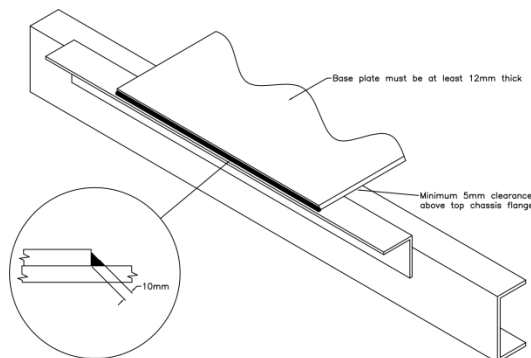

Figure 17: Fifth wheel mounting plate welding
- If welded, use 10 mm fillet welds not less than 450 mm (total) on each side with weld runs not less than 40 mm long (see Figure 17).